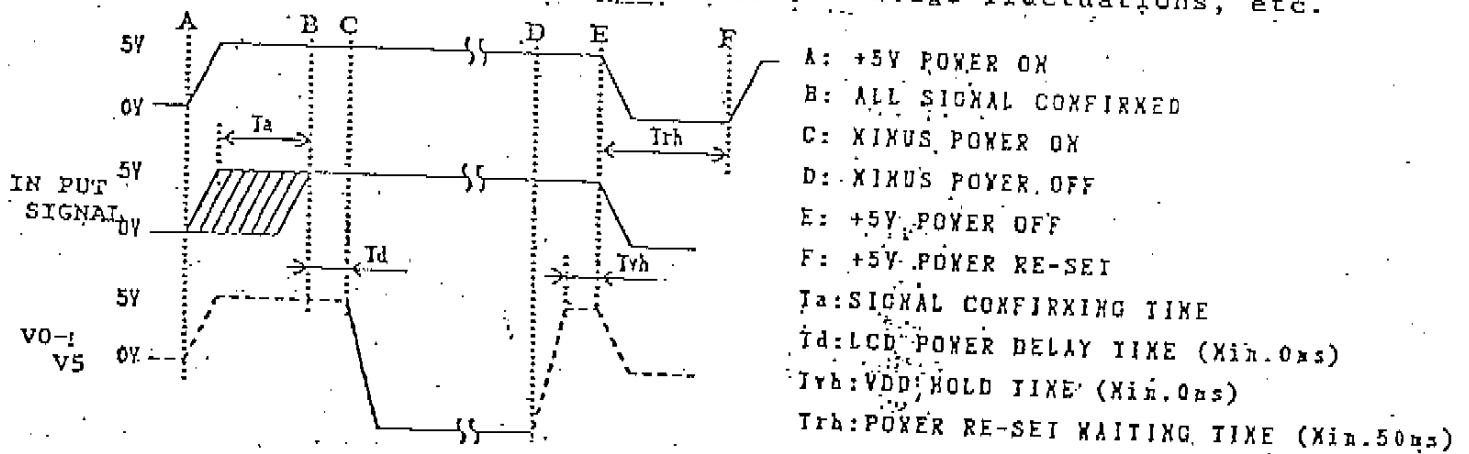
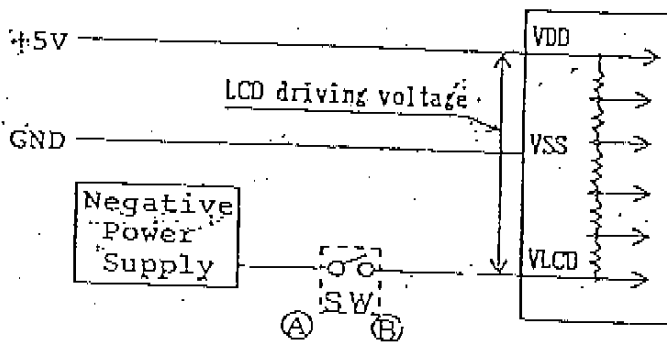
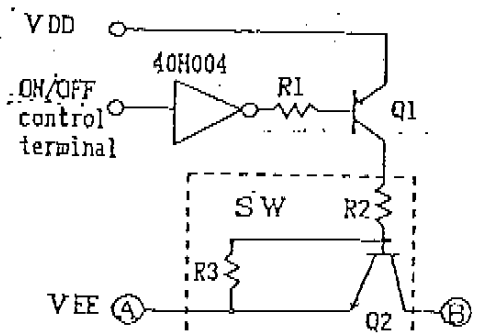

Fig. 1 Power On/Off Sequence
Fig. 2 Typical Power Supply Connection
Fig. 3 Typical SW Circuit
- (1) If the LCD panel is driven on DC, the electrochemical reaction within it causes a rapid reduction in display performance. The duty 50%±1% of the FR signal must always be observed.
- (2) Follow the power on/off sequence shown in Fig. 1 to prevent a latch-up or DC operation of the LCD module.
- (3) No LCD module must exceed the absolute maximum ratings. If a module is operated with any value exceeding absolute maximum ratings, its performance will deteriorate and may no longer restore to normal. In designing a system using LCD modules, utmost care should be taken of ambient temperature, input voltage signal fluctuations, supply voltage fluctuations, etc.
- [Note 1] The VLCD on/off operation shown in Fig. 1 indicates the switching operation of Fig. 2.
- [Note 2] Turning off the SW (Fig. 2) will open the VLCD terminal. Therefore, the LCD driving voltage (VDD-VLCD) will become zero 100ms(Max.) later.
- [Note 3] A typical circuit for the SW portion of Fig. 2 is given in Fig. 3 for reference.